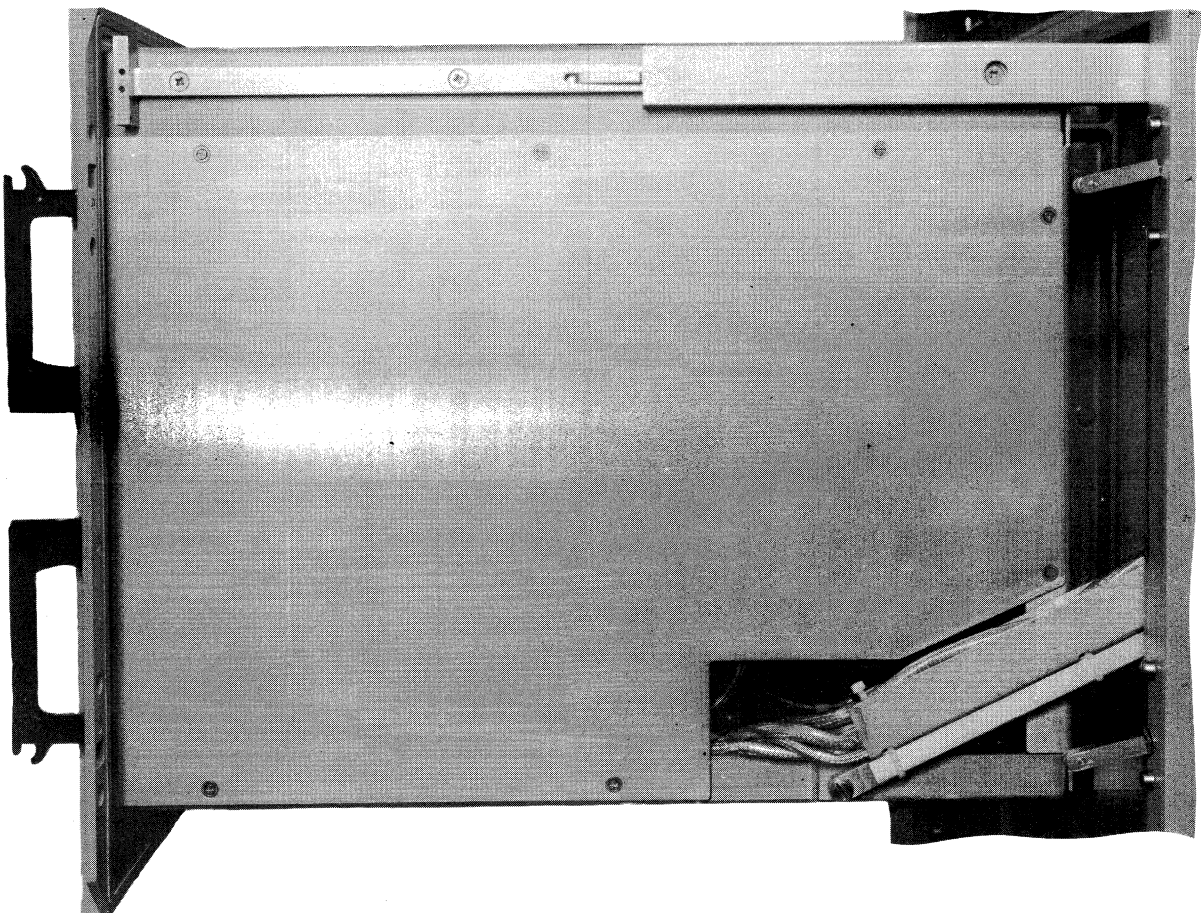

Figure 5-2. MTT, Rear View
STEP 2. Turn seven captive screws on rear cover (figure 5-2) one-quarter turn and remove cover.
STEP 2. Turn seven captive screws on rear cover (figure 5-2) and remove cover.
STEP 3. Remove front panel (figure 5-2) by removing eleven screws securing panel to transport frame.